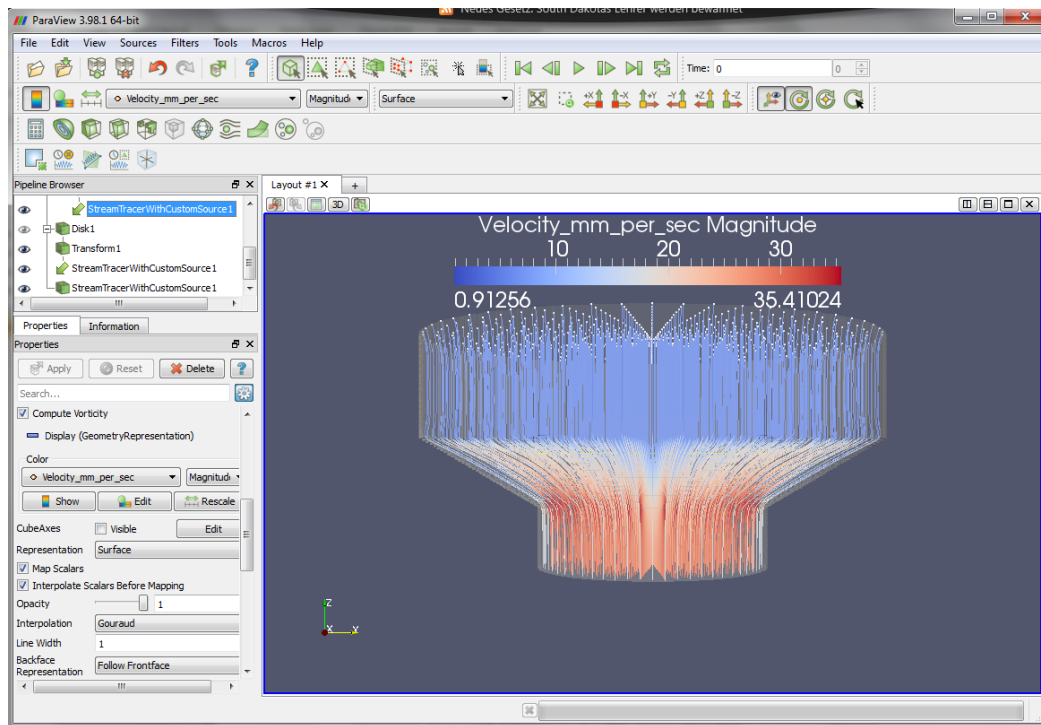

Figure 6.3-3: Visualization of the streamlines, colored with the flow speed.
- In the Properties tab scroll down to the Display section to select the velocity data for the coloring of the streamlines. Add a legend and you're done (see Figure 6.3-3).